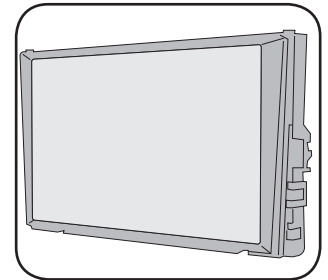

Fig. 3.1
1. Place the Pioneer screen into the VW1 bezel. (Fig. 3.1)